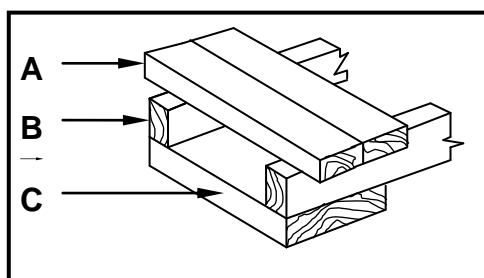

FIGURE 5.5
- 5.5 FIGURE 5.5 below shows a pictorial view of closed laggings. Study the picture and answer the questions that follow.
- 5.5.2 Explain ONE use of **A** if it is used in a closed position, as shown in FIGURE 5.5. (1)